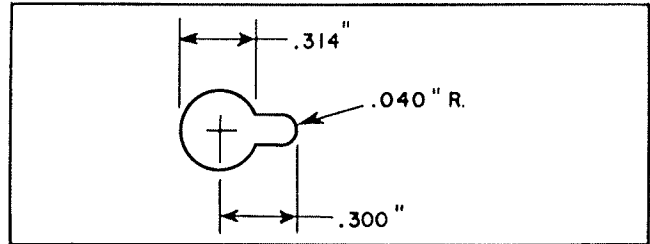

Figure P-2. Change No. 52, RA-112A - RA-113.
4. In the space made available by step 3, make a hole as shown in Figure P-2. If a punch is not available, the hole may be drilled using 5/16 inch and 3/64 inch drills.